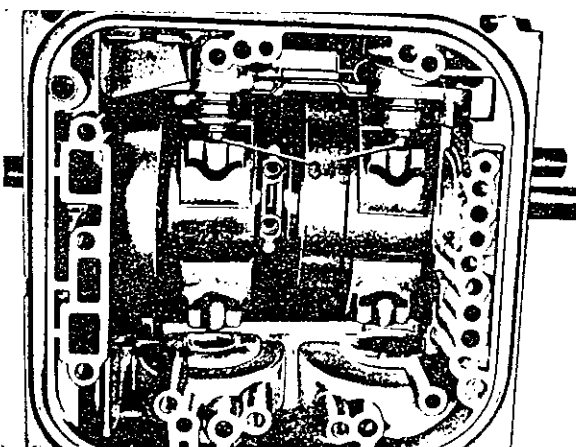

Fig. 48
31 Insert the two pressure pins (34) on the reverse end of the brake band pistons **Fig. 48**